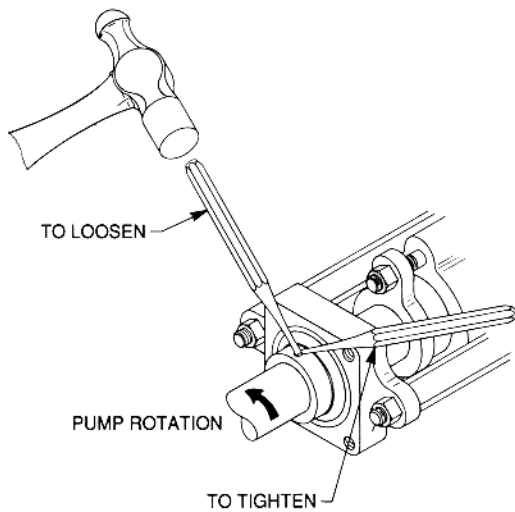

Figure 3 - Bearing Lock Collar
3. Using a punch tool and hammer, turn the lock collar in the opposite direction of pump rotation (see Figure 3). Once the collar is removed, the bearing can be pulled from the bearing flange and off the shaft.
4. Remove the locknuts (106A) from the hex flange rods and remove the bearing flange (106).
1. Screw the short threaded ends of the two (2) hex flange rods (106E) firmly into the tapped holes in the head.
2. Place the bearing flange (106) on the studs and tighten the locknuts (106A).
4. Push inward on the bearing and lock collar assembly (106B) while turning the lock collar by hand in the direction of shaft rotation. Lock the collar to the shaft with a punch tool and hammer (see Figure 3).